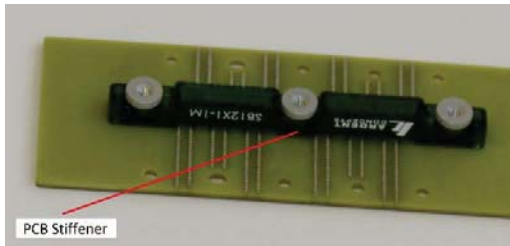

Figure 3: Mounting the Stiffener Block
- Carefully locate the TR board footprint and align the press bosses of the Stiffener Block to the back of the TR footprint on the PCB (See Figures 3 and 4).